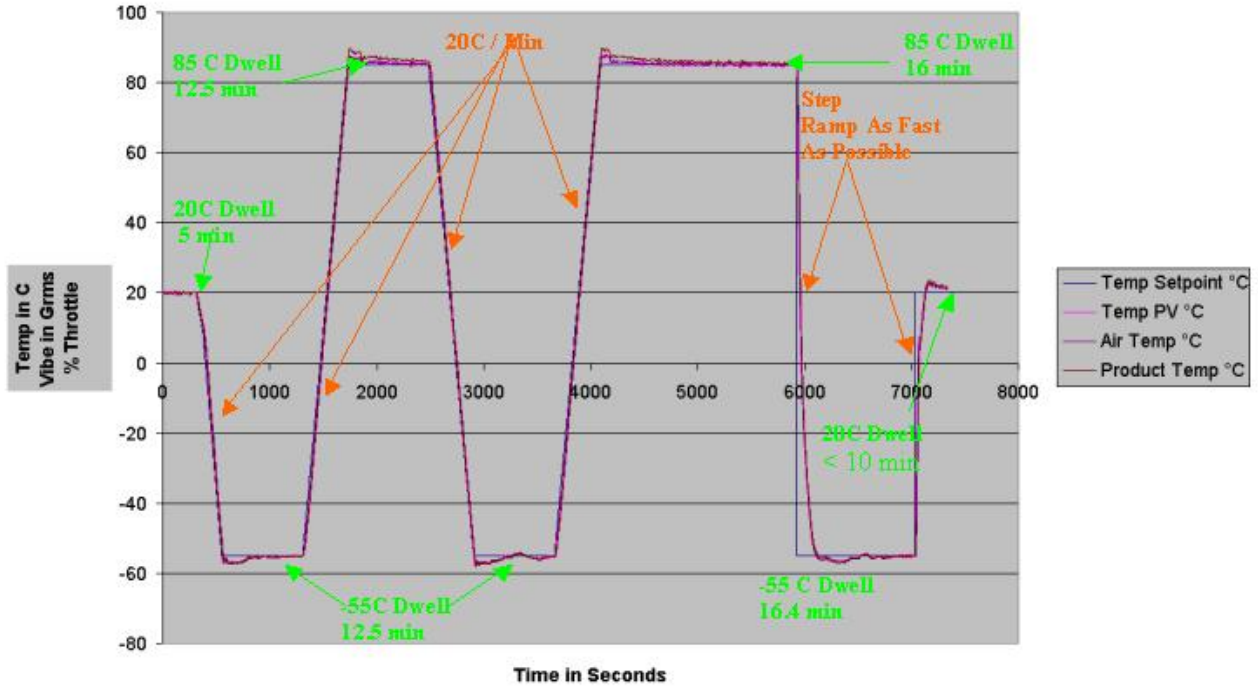

Figure 6 – LN2 Usage Test Profile
- Enter thermal profile shown in Figure 6 and Table 1 into chamber controller.
Measurements are taken on a digital tank level meter similar to that shown in Figure 4. The amount of LN2 consumed is expressed as the change in tank level using the meter and LN2 contents chart located on the tank (Figure 4 and Figure 5). The test profile to use is shown in Figure 6 and Table 1.